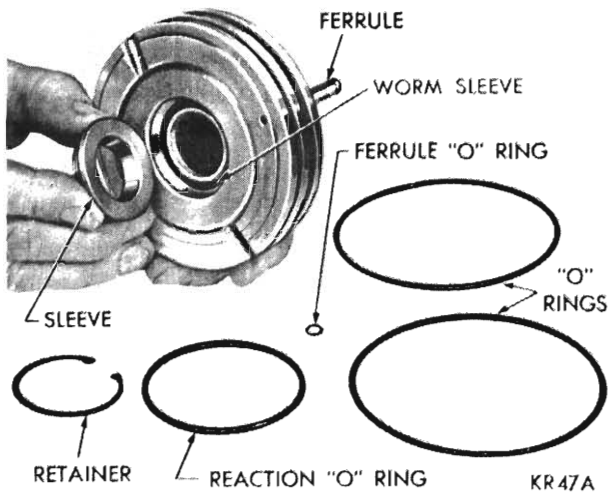

Fig. 16 - Removing cylinder head oil seal
(25) Remove the snap ring, sleeve and rectangular oil seal ring from the cylinder head counterbore (Fig. 16). Inspect the seal for possible damage and replace seal if necessary (Fig. 16).
(28) Place the piston assembly in a vertical position (wormshaft up) in a vice equipped with soft jaws. Turn wormshaft in an anti-clockwise direction to full extent.
(29) Inspect the cylinder head ferrule oil passage for obstructions, and the lands for burrs, then lubricate the two large 'O' rings and install them in the cylinder head grooves (Fig. 16).
(30) Install the worm sleeve seal, sleeve and snap ring (if removed). Make sure the snap ring is seated in the groove.
(31) Install the lower reaction seal ('O' ring) in the cylinder head groove.
(32) Slide the cylinder head assembly (ferrule up) on the wormshaft. Test the wormshaft seal ring making sure the gap is closed to avoid damaging the ring as the cylinder head moves against the piston flange. (Turn worm shaft clockwise half a turn.)
(33) Lubricate with Power Steering Fluid (Part No. 2793254) and install parts in following order: